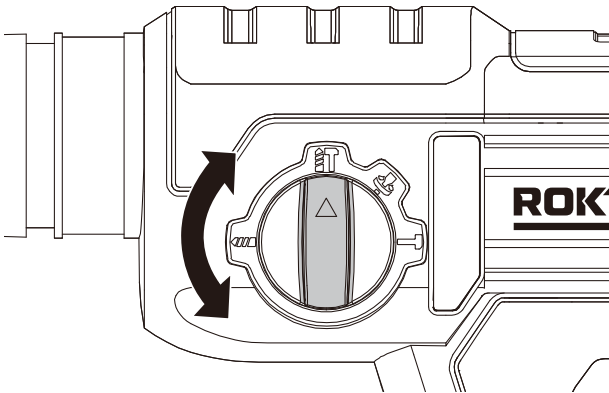

Figure 7
4. FUNCTION MODE SELECTION (SEE FIG. 7)